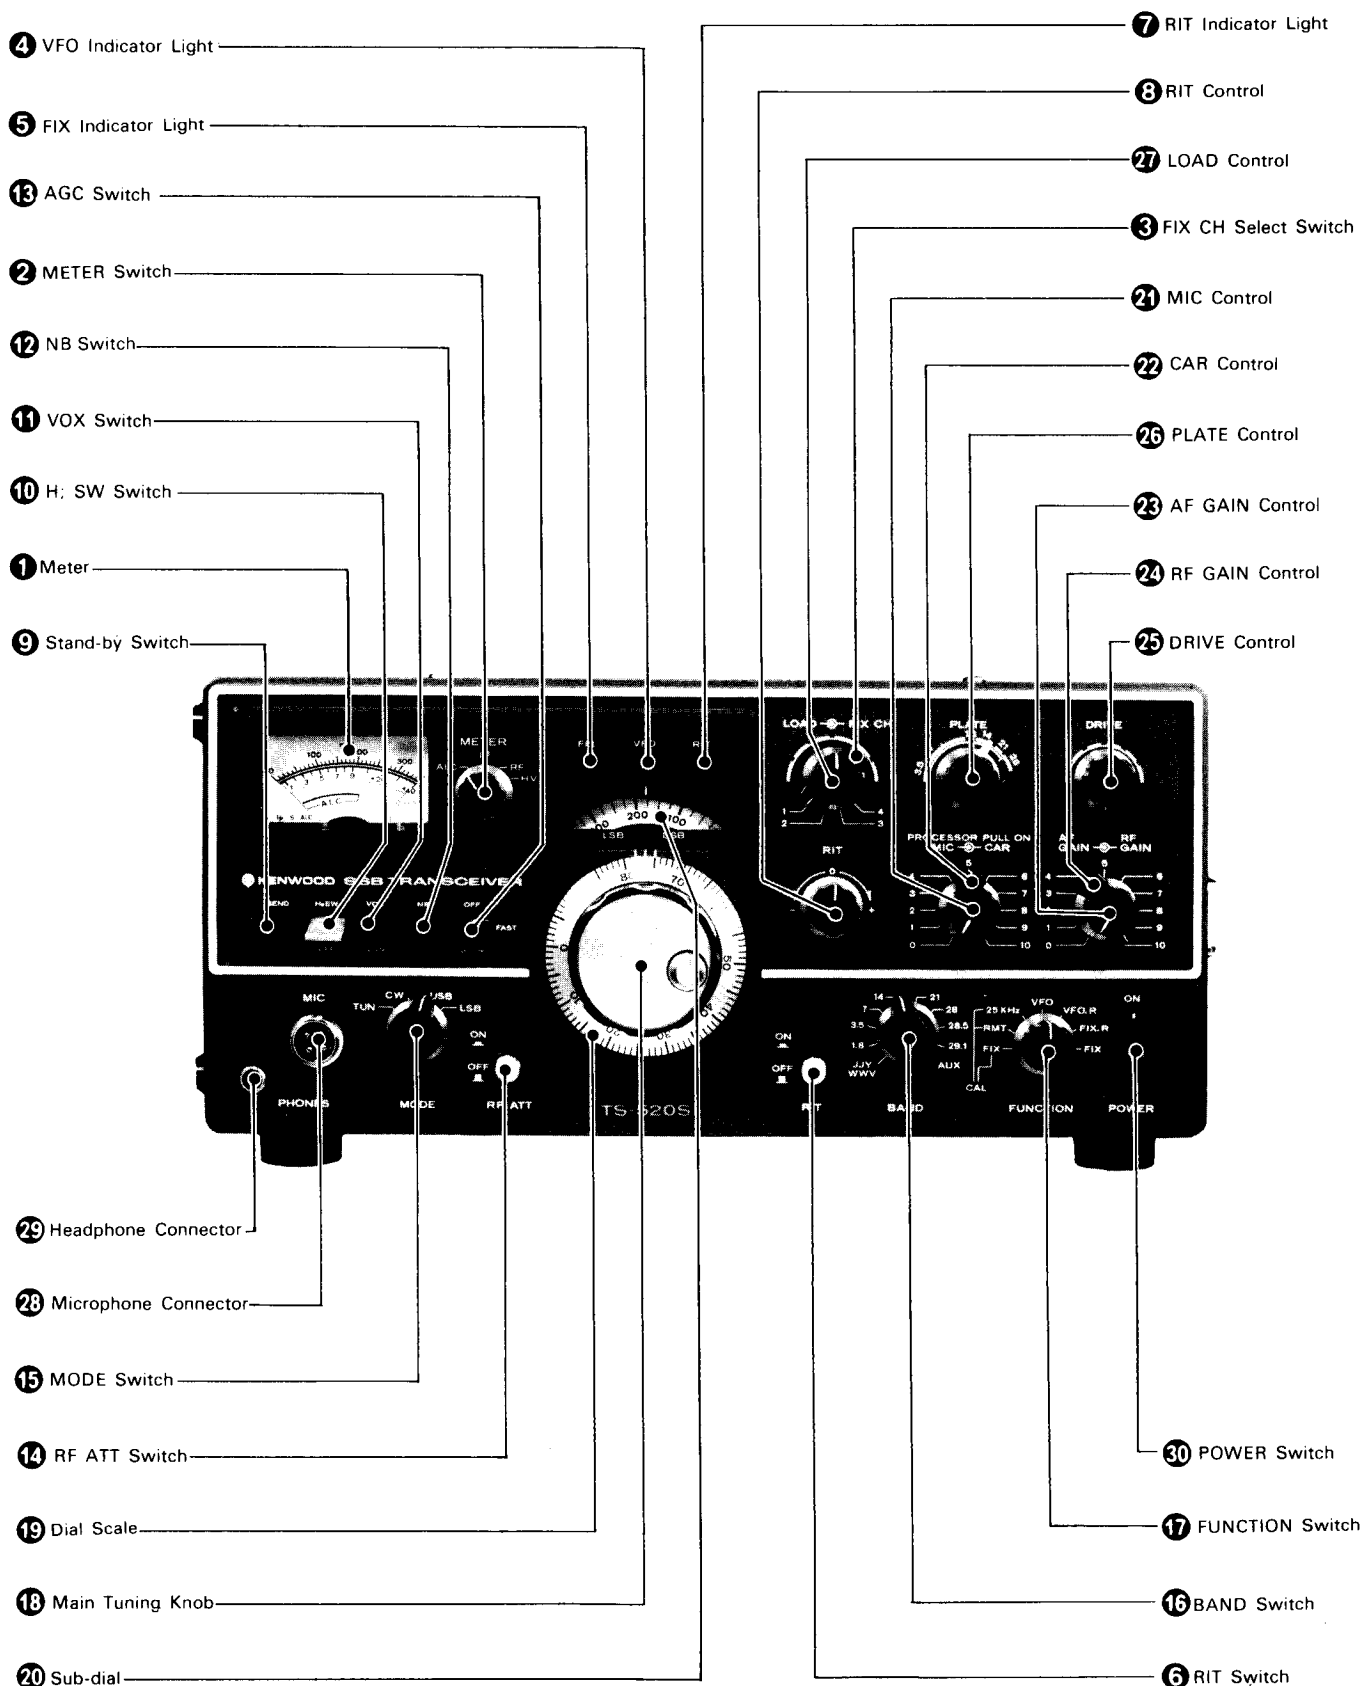

Fig. 5 Front Panel Controls
3.1 FRONT PANEL CONTROLS (See Figure 5)
■ METER (① on Figure 5)
■ METER SWITCH (② on Figure 5)
(③ on Figure 5)
■ VFO INDICATOR LIGHT (④ on Figure 5)
■ FIX (FIXED CHANNEL OPERATION) INDICATOR LIGHT (⑤ on Figure 5)
■ RIT SWITCH (⑥ on Figure 5)
■ RIT INDICATOR (⑦ on Figure 5)
■ RIT CONTROL (⑧ on Figure 5)
■ STAND-BY SWITCH (⑨ on Figure 5)
■ H. SW (Heater) SWITCH (⑩ on Figure 5)
■ VOX SWITCH (⑪ on Figure 5)
■ NB SWITCH (⑫ on Figure 5)
■ AGC SWITCH (⑬ on Figure 5)
■ RF ATT SWITCH (⑭ on Figure 5)
■ MODE SWITCH (⑮ on Figure 5)
■ BAND SWITCH (⑯ on Figure 5)
■ FUNCTION SWITCH (⑰ on Figure 5)
■ MAIN TUNING KNOB (13 on Figure 5)
■ DIAL SCALE (19 on Figure 5)
■ SUB-DIAL (20 on Figure 5)
■ MIC CONTROL (PROCESSOR PULL ON) (21 on Figure 5)
■ CAR CONTROL (22 on Figure 5)
■ AF GAIN CONTROL (23 on Figure 5)
■ RF GAIN CONTROL (24 on Figure 5)
■ DRIVE CONTROL (25 on Figure 5)
■ PLATE CONTROL (26 on Figure 5)
■ LOAD CONTROL (27 on Figure 5)
■ MIC CONNECTOR (28 on Figure 5)
■ PHONES JACK (29 on Figure 5)